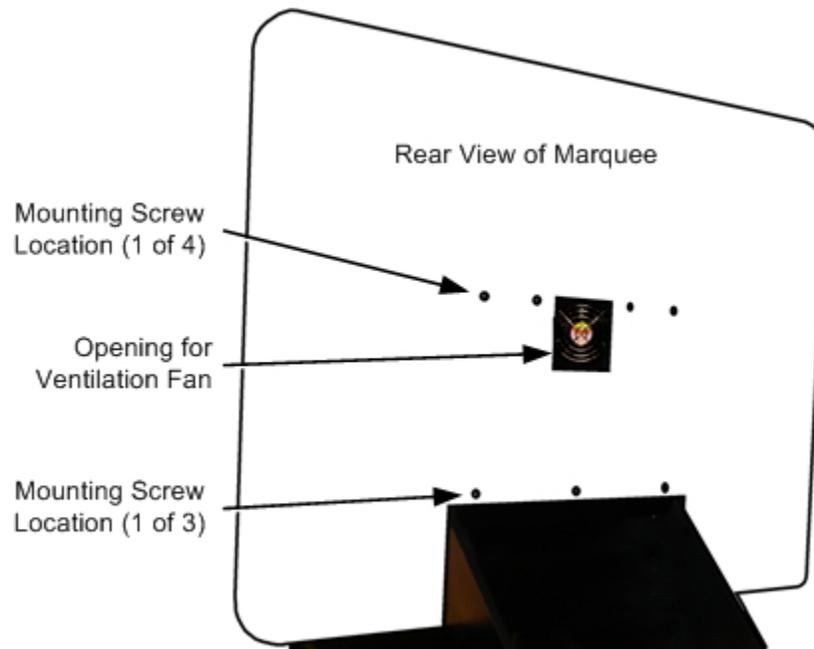

Figure 2. Rear View of Sintra Marquee
To install the Marquee Assembly, refer to Figure 2 and note the seven (7) mounting screw locations. Do the following steps:
3. While a second person supports the Marquee Assembly, secure it to the cabinet with the seven (7) ¼-20 x ¾” screws with flat washers provided. The screws mate with T-nuts in the cabinet.